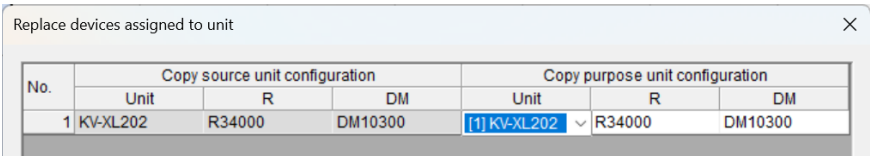

Fig 9 Setting of Replace device
- ③ When the “Replace device assigned to unit” Dialog box appears, set the [Unit] item to KV-XL202. (Fig 9)
- ④ Project tree: Right click on [Standby module] -> Click on [Import program].
- ⑤ Import program: Select the following file and click Open.